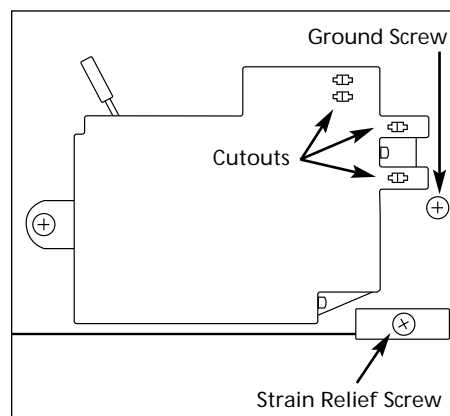

Figure 3
3. Locate cut-outs on the back of pressure switch (See Fig. 3). Insert tip of small screwdriver into cutouts, then push to release wires.
4. Remove ground screw (Fig. 3).
5. Remove strain relief screw (Fig. 3).